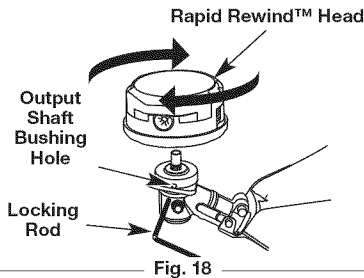

Fig. 18
- Align the shaft bushing hole with the locking rod slot and insert the locking rod into the output shaft bushing hole (Fig. 18).
- While holding the locking rod, remove the cutting head by turning it clockwise off of the output shaft (Fig. 18). Store the cutting head for future use.
- Align the output shaft bushing hole with the locking rod slot and insert the locking rod into the output shaft bushing hole (Fig. 18).